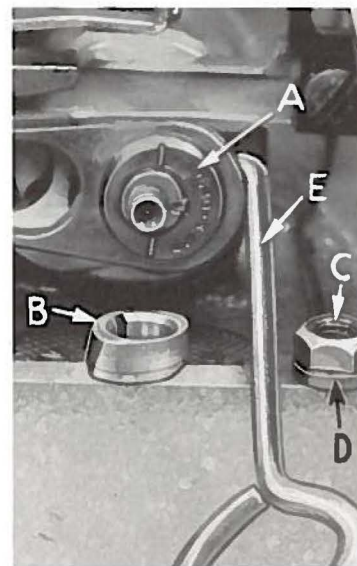

Fig. 13
In assembling the feed eccentric (A, Fig. 13), be sure the hub and oil groove is to the left. Beveled edge of feed eccentric spacer (B) should also be to the left side, so the undercut on the spacer will be over the hub on the feed eccentric. Be careful not to damage shaft or key. Assemble washer (D) and tighten nut (C) securely.